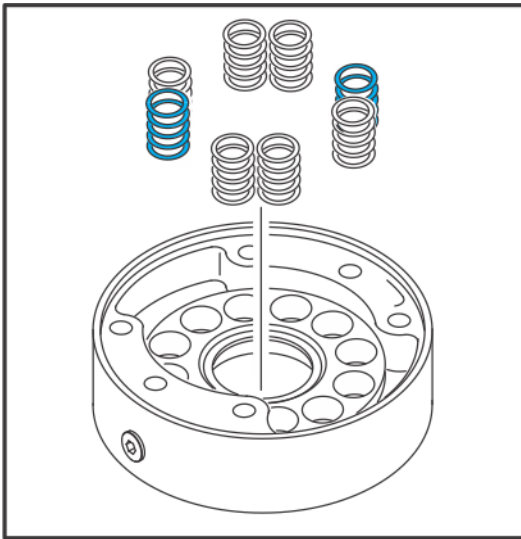

Figure 3-56. Swing Brake 8 Spring Orientation
3. Assemble correct quantity of springs (8) in orientation required. Refer to (See Figure 3-56.) and (See Figure 3-57.).